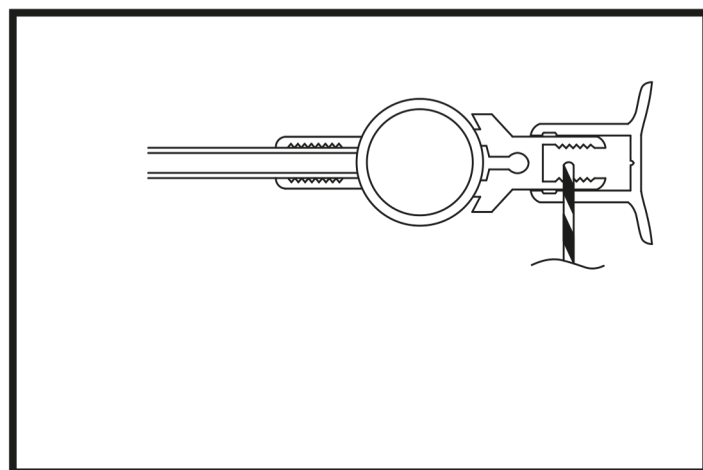

Figure 16
41. Begin by drilling the top hole, going through both the hinge profile and the hinge. Drill the holes carefully so that the drill only passes through one half of the profiles, not the entire product. (Figure 16)